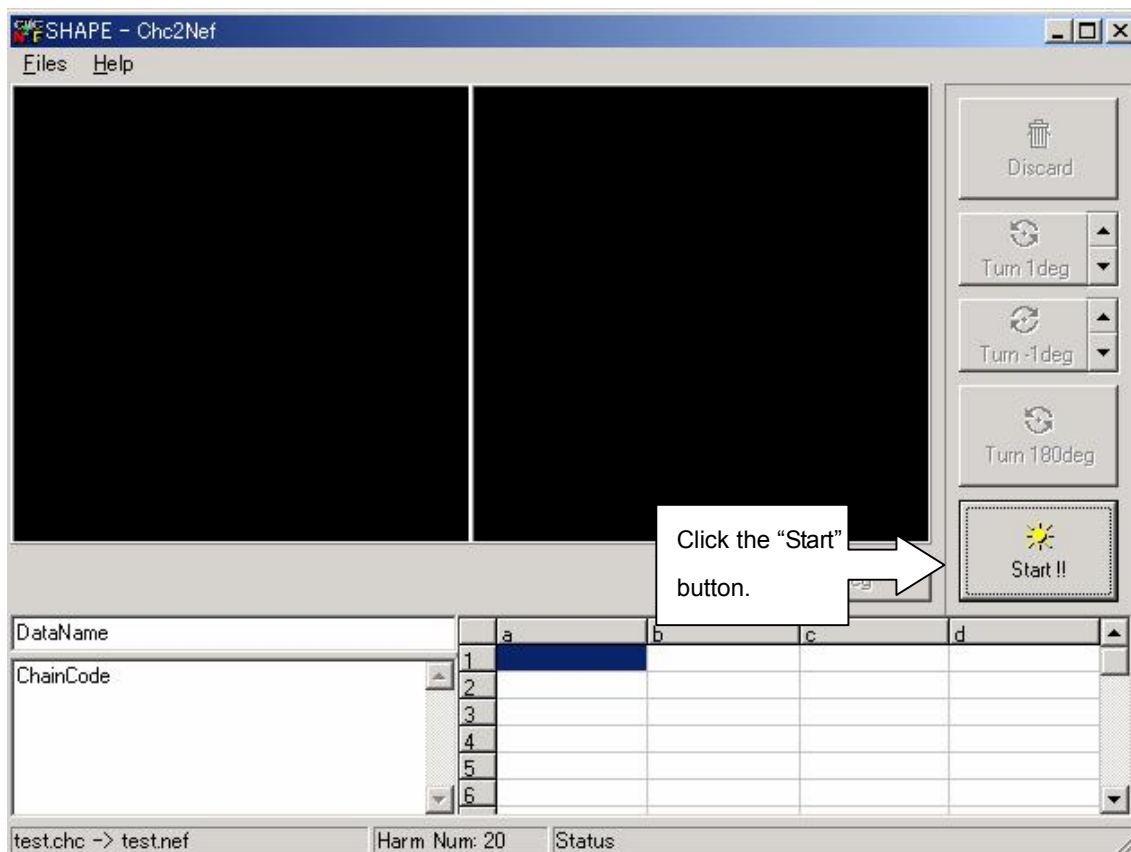
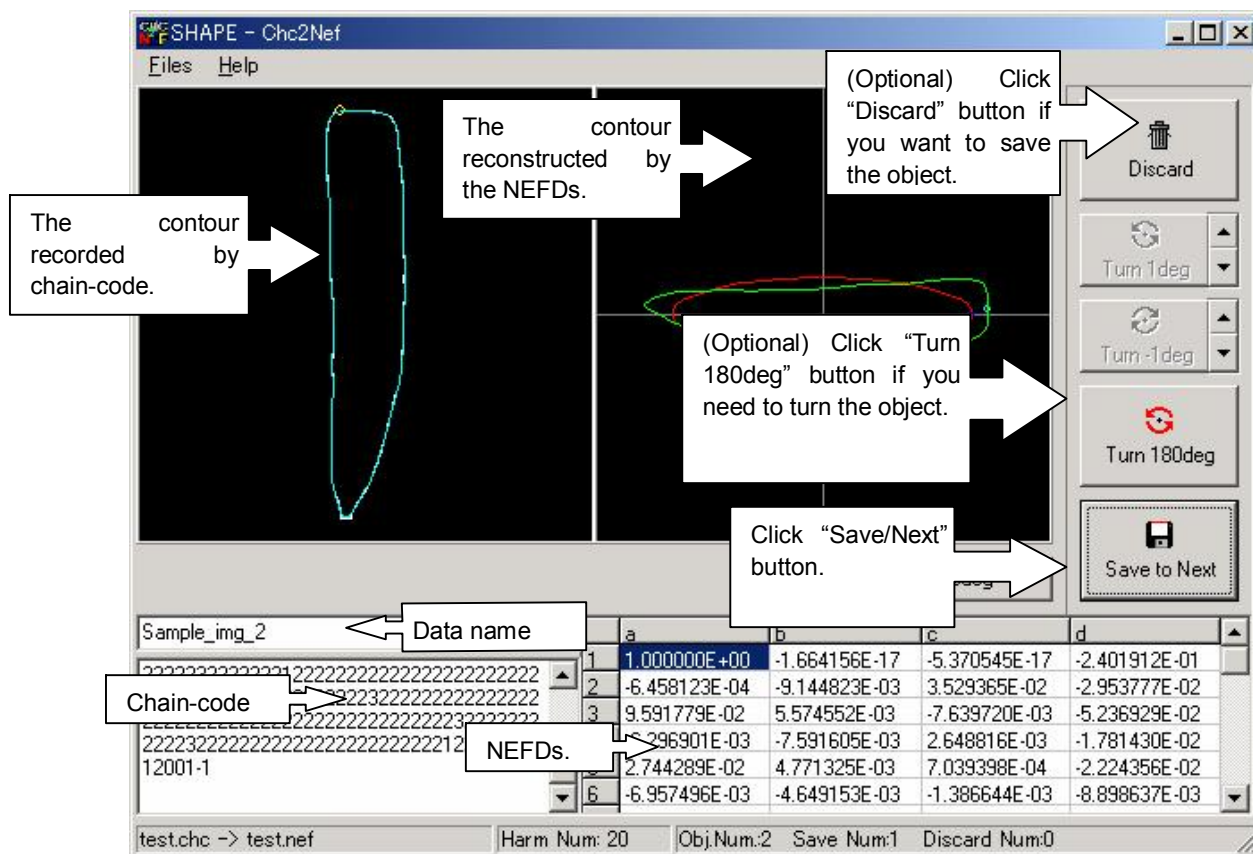

Fig. 20
Fig. 21
17. Click the "Start" button (Fig. 20). The chain code of the first object is then converted to the normalized elliptic Fourier descriptors (NEFDs) and the NEFDs and the contour reconstructed by the NEFDs will be appeared in the window (Fig. 21).
18. (Optional) Click “Turn 180deg” button if you need to turn the object (Fig. 21).
19. (Optional) If you don't want to save the object, click the "Discard" button (Fig. 21).
20. Click “Save/Next” button. Then, the NEFDs obtained will be saved to the output file and the chain-code of the next object will be converted to normalized elliptic Fourier descriptors (Fig. 21). To convert the remaining objects, repeat the steps 18 and 19 until all the objects have been converted.